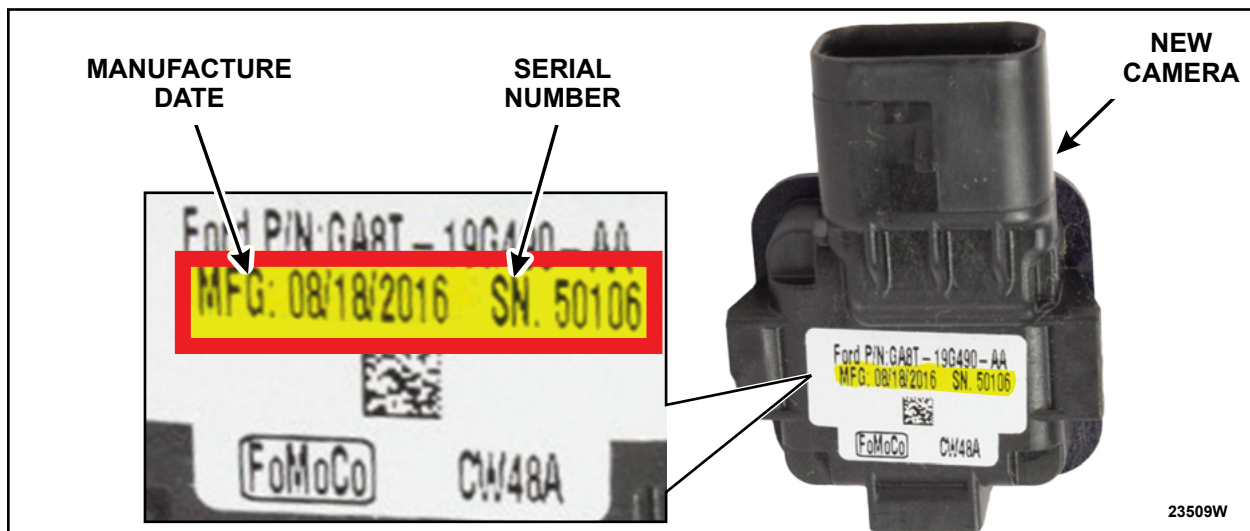

FIGURE 9
2. Write down and include the new camera manufacture date and serial number onto the repair order. The new camera manufacture date serial number should also be included in the warranty claim submission in the technician comments section. See Figure 9.